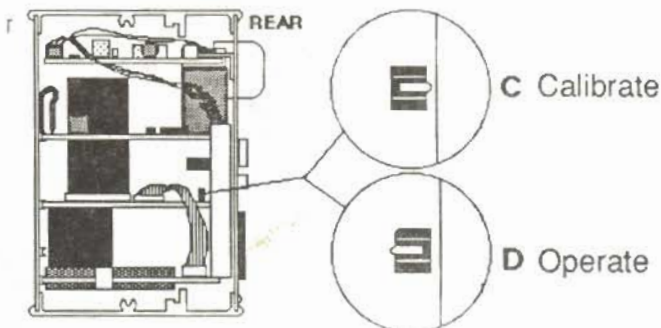

Figure 1 - Right-end view of Indicator showing detail of calibration switch positions.
1. With **POWER OFF** and right panel (as viewed from indicator front) removed as outlined in DISASSEMBLY PROCEDURES, page 25; refer to Figure 1 and place switch in the calibration position (Detail C), then **POWER UP** the indicator.